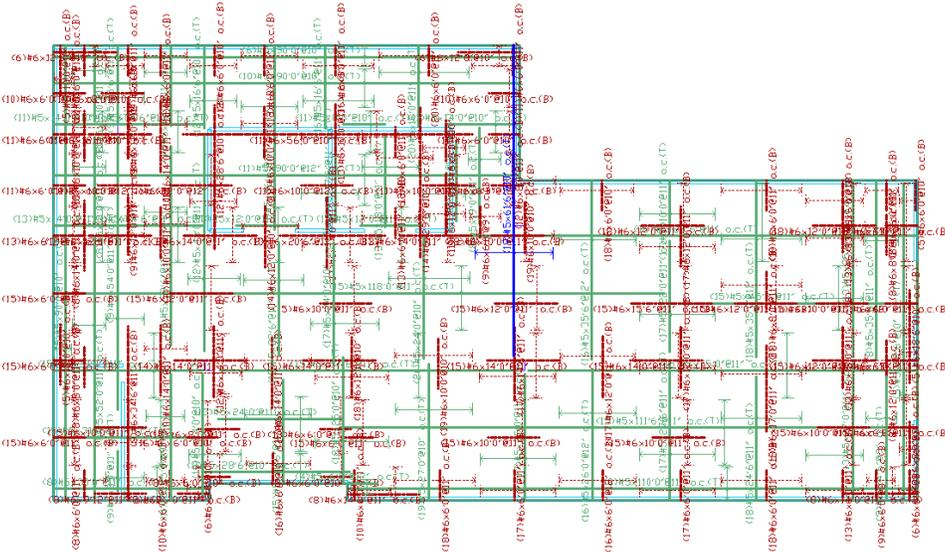

FIGURE 6.8-12 INITIAL REBAR ARRANGEMENT
- The program will display the requirement of rebar at the top and bottom faces of the slab and/or beams at all positions for the enveloped condition (considering strength requirement and minimum rebar for service condition when required per code) as shown in **Figure 6.8-12**.